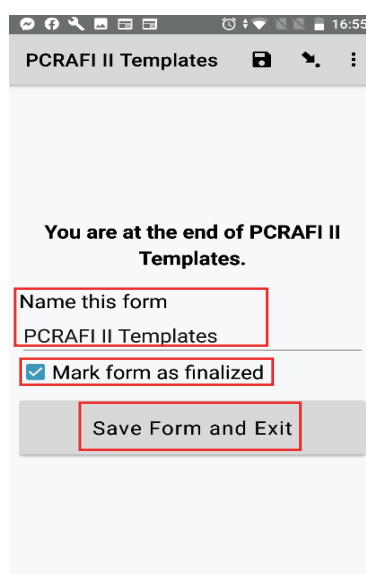

Figure 69: KoBoCollect - Saving Form and exiting data collection
- Once at the end, the following interface will appear. (Figure 69) At this point, the user is able to rename the form filled and mark the form as finalized.